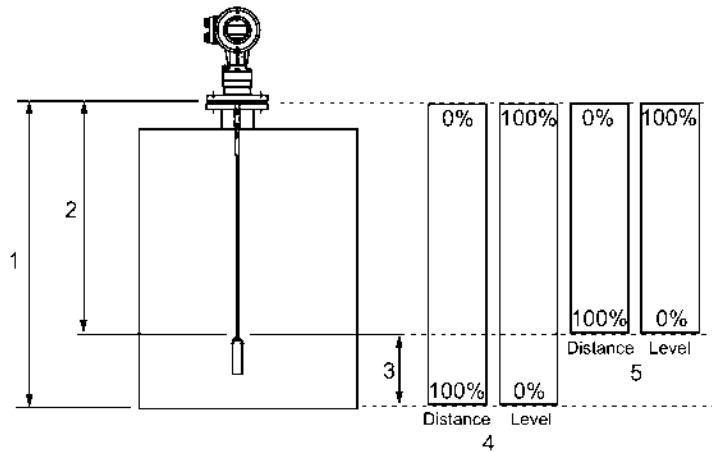

Figure 33
How the “tank height” parameter Fct. 1.1.1 affects the measurement when either “Level” or “Distance” is configured for the measurement display is illustrated in Figure 33.
Adjust Fct. 1.1.1 (Table 9) to be equal to the factory configured probe length, L1 (Fct. 1.1.7). In this example we wish to change 1.1.1 to be equal to 29.5ft (9,000mm), and then save the change. This results in the 0-100% range for distance and level being changed to that represented as item 5 in Figure 33.